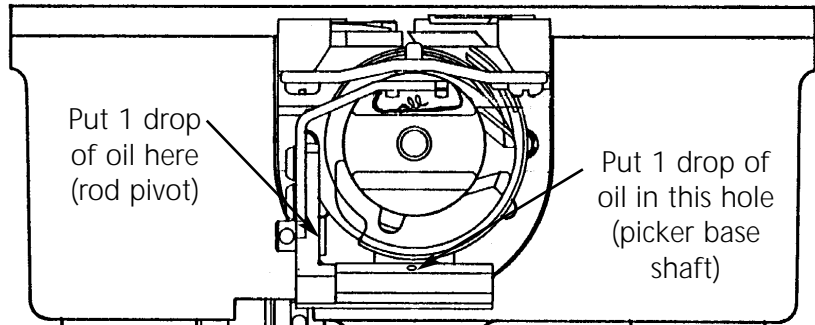

Figure 4-17
7. When **trimmer picker base shaft, rod pivot** displays, press . No motion is required to lubricate the trimmer picker base shaft and rod pivot. Refer to Figure 4-17 to lubricate the trimmer picker base shaft and rod pivot. Press  when done. The picker will cycle in and out.